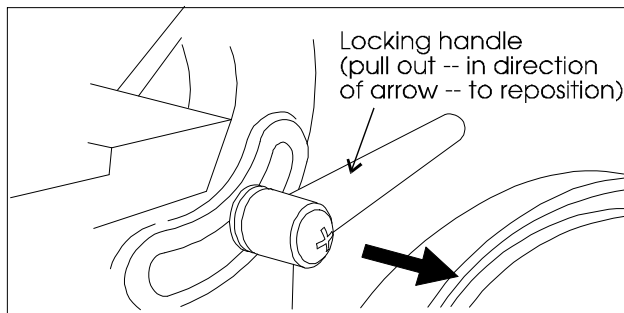

Figure 4: Locking handle for belt table
1. Flip out the stop bracket (see Figure 4.)
The lock handle (Figure 4) is spring loaded and can be repositioned on its shaft to permit easy locking and unlocking.